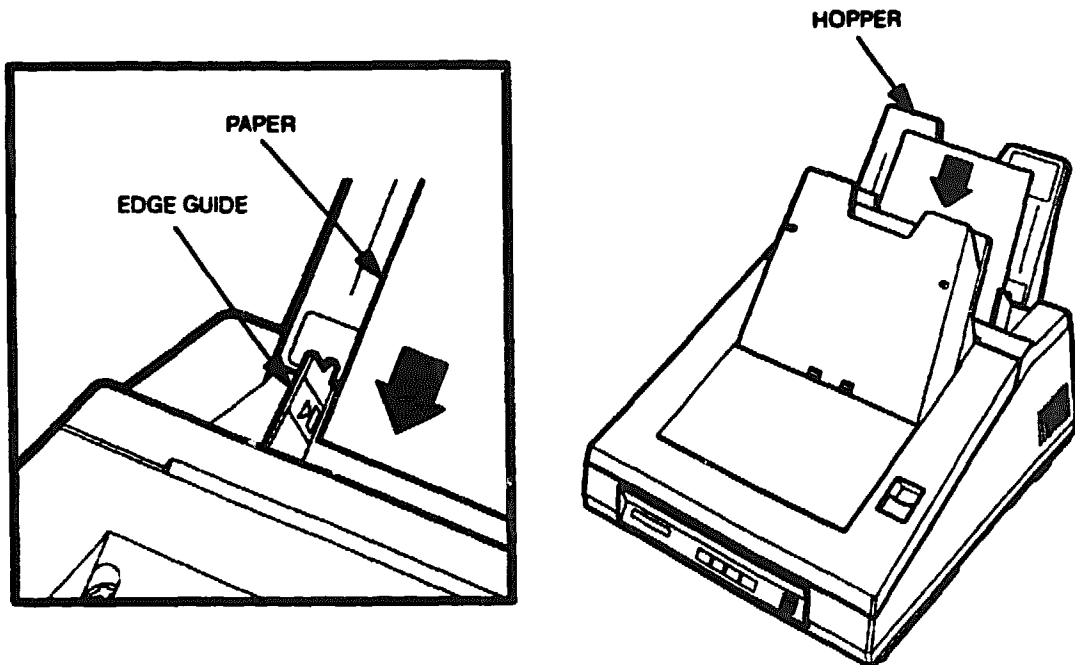

Figure 2-12 Adjusting the Edge Guides
1. Place up to 100 sheets of specially coated, DEC-supplied sheets (or up to 10 transparencies) in the hopper tray. Be sure the paper stack does not exceed the hopper capacity indicated by the marking on the left edge guide (see Figure 2-12).
2. Adjust the edge guides to snugly fit the width of the paper or transparencies (see Figure 2-12). The printer is now ready to receive print commands from the host computer.